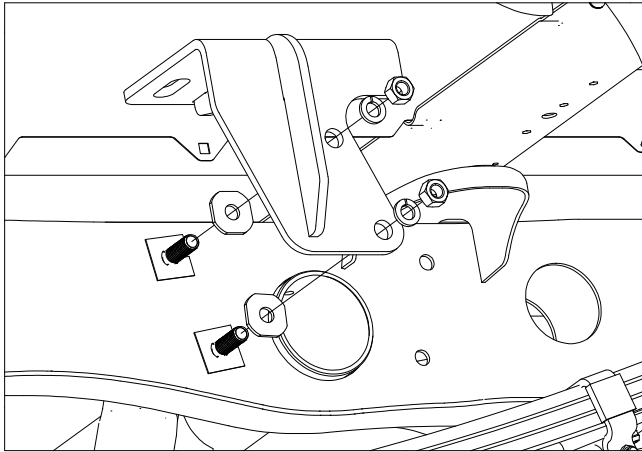

Figure B7: View looking into driver side wheel well.
- 6. Install the rear side plates.** Locate the two rear side plates, four 1/2" lock washers, four 1/2" finish nuts, and four frame spacers. If your truck does not have overload brackets install a frame spacer onto each of the carriage bolts, if it does you may discard the frame spacers. Pass the top flange of the rear side plates over the frame and then pass the holes in the side plates over the carriage bolts. Secure the side plates with a 1/2" lock washer and nut, see Figure B7. Hand tighten hardware only at this time.